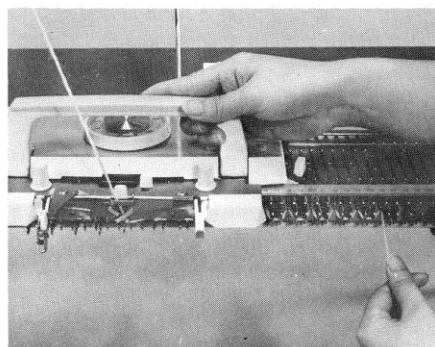

Fig.42
- g) Holding the loose end of the wool directly below the carriage feeder, move the carriage slowly from the right to the left across the working needles. (Fig.42)